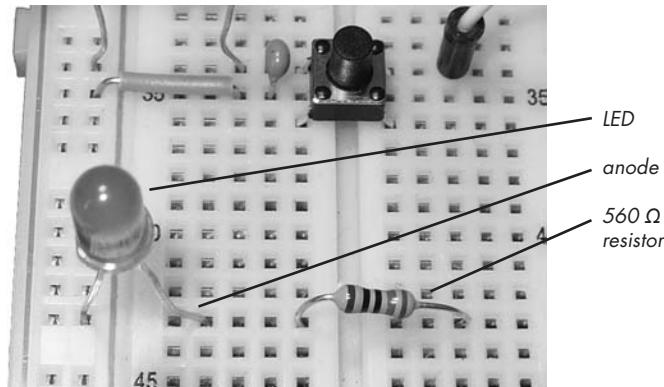

Figure 4-24: Inserting the LED and $560\ \Omega$ resistor
- Insert the LED into the breadboard with the short leg (the cathode) connected to the GND column, and the long leg (the anode) in a row to the right. Next, connect the $560\ \Omega$ resistor to the right of the LED, as shown in Figure 4-24.